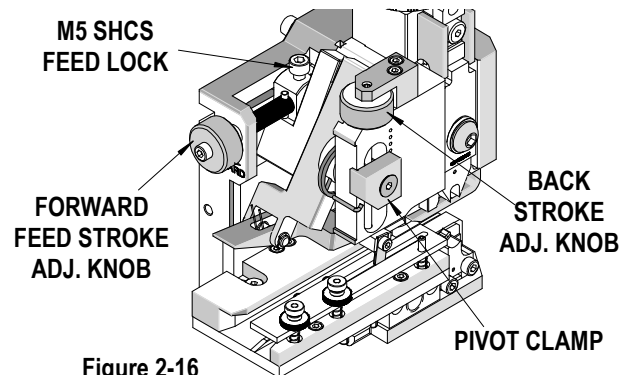

Figure 2-16
4. Turn the forward feed adjusting knob to position the terminal. To decrease the feed position, turn the forward feed adjusting knob clockwise. To increase the feed position turn the forward feed adjusting knob counterclockwise. See Figure 2-16.
3. To achieve the correct back stroke location, adjust the position of the hinge bushing. First, use a 3mm hex wrench to loosen the pivot clamp. Turning the back stroke adjustment knob (which is located above the hinge bushing) clockwise (CW) will raise the hinge bushing and will lengthen the feed back stroke. Turning the knob counter clockwise (CCW) will lower the hinge bushing and will decrease the feed back stroke. When adjustment is complete, tighten the pivot clamp securely. See Figure 2-16.